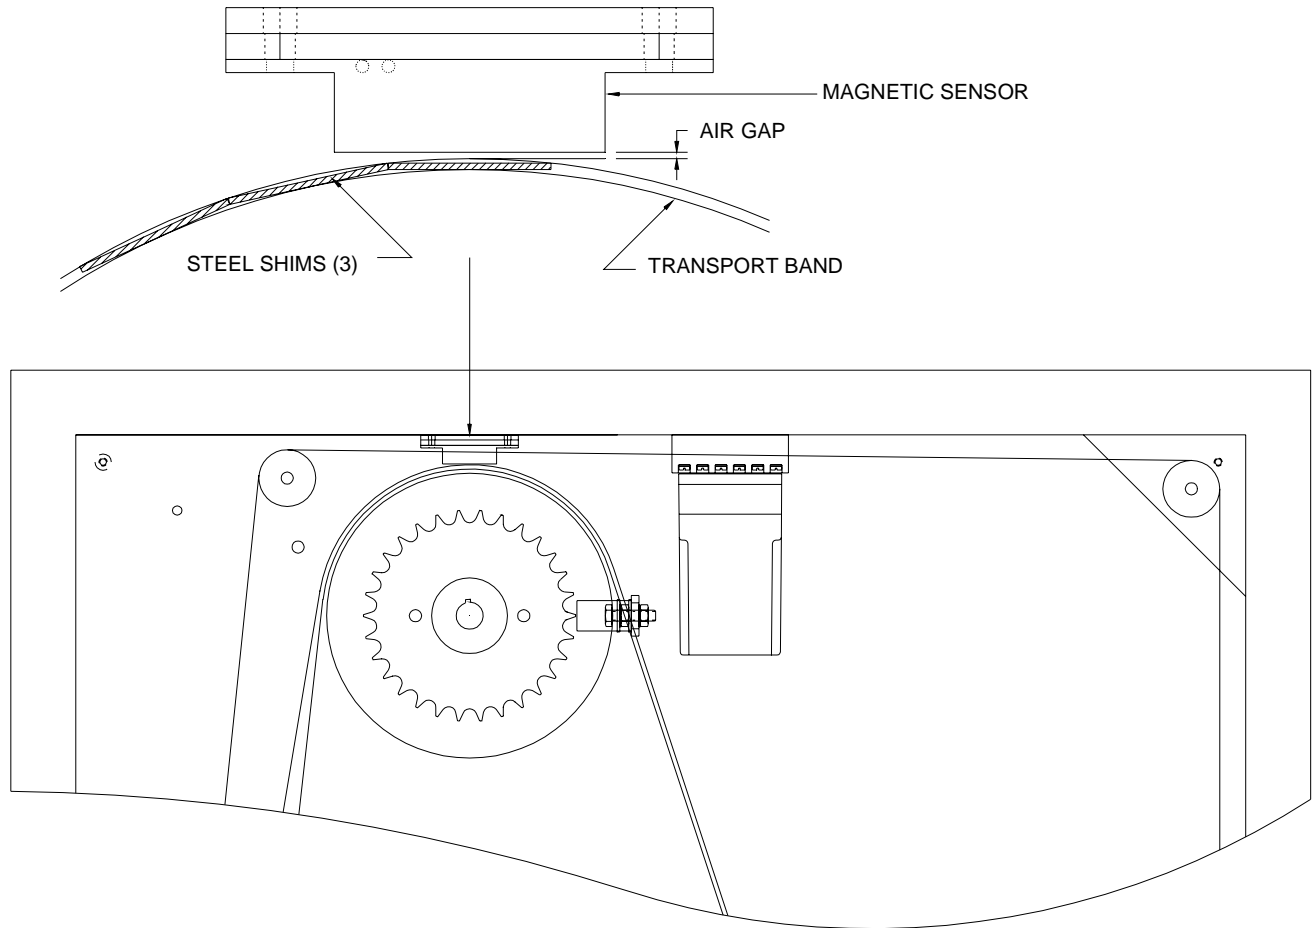

Figure 7-8-a. Checking and Adjusting the Magnetic Sensor
- c. See Figure 7-8-a and check that the AIR GAP is about 0.1 inches (2.5 mm). If the AIR GAP is more than 0.1 inches, bend the bracket gently and recheck the AIR GAP.